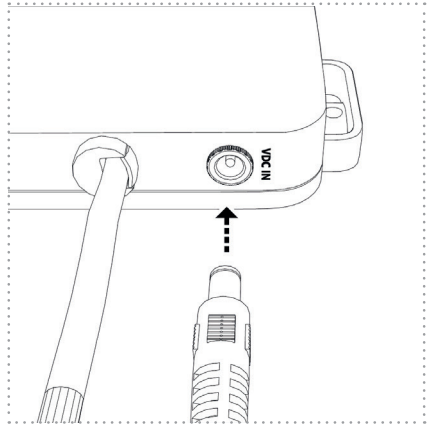

Figure 23
6. Now plug the connector of the power supply cable into the designated socket on the UV unit (Figure 23).